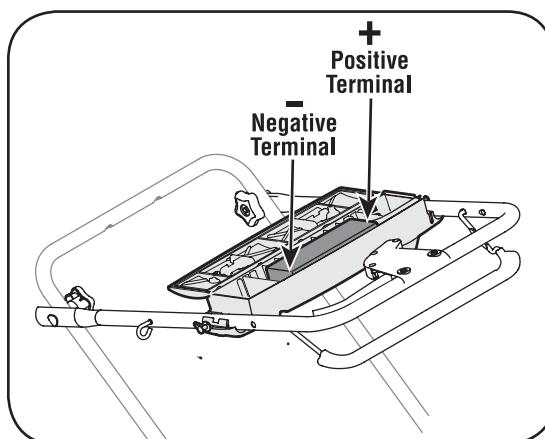

Figure 21
3. Open battery cover, remove positive and negative leads from battery, remove and replace with new battery. See Figure 21. Connect the positive lead to the positive side of the battery pack, then connect the negative side.
NOTE: The battery you have may differ slightly from the one shown in Figure 21. Refer to the Parts List.
IMPORTANT: When replacing battery pack in handle panel, battery pack must be positioned with the positive terminal to the left side and the negative terminal to the right side of panel (Positive terminal is closest to the key switch). See Figure 21. Replacing battery pack incorrectly will cause serious damage.